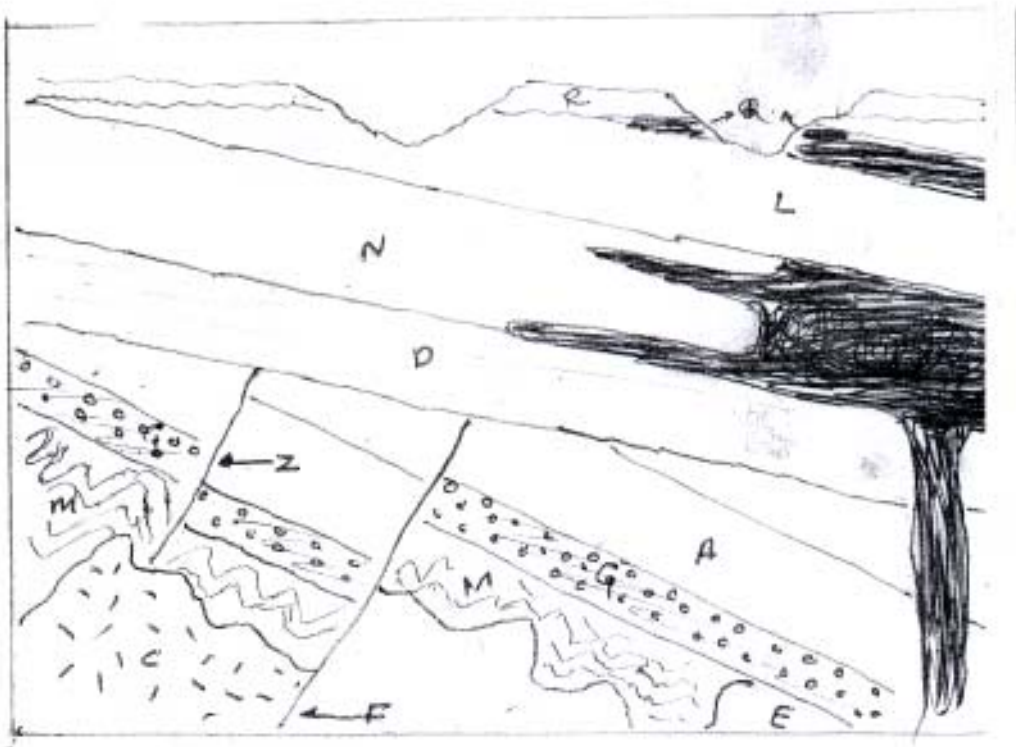

Fig. 1
- B) Give chronology of events in a tabular format for following interpreted subsurface section as shown in Fig.1 **10**